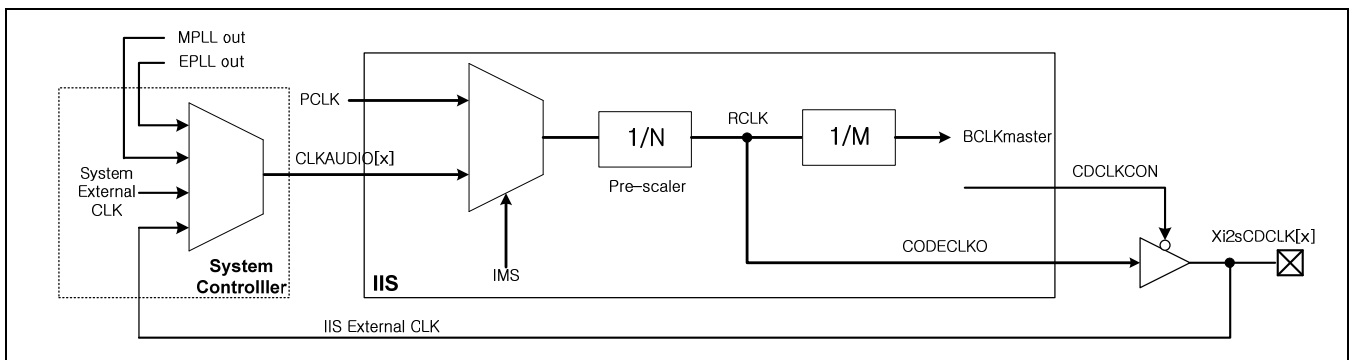

Figure 36-2. IIS Clock Control Block Diagram
Figure 36-2 shows the route of the I2SCDCLK with internal master or external master mode setting in IIS clock control block and system controller. Note that RCLK indicates root clock and this clock can be supplied to external IIS codec chip at internal master mode.
2. You must select a clock source.6410 has five clock sources. Those are MPLL, EPLL, PCLK, system external clock and IIS external clock. For more information please refer to Figure 36-2.